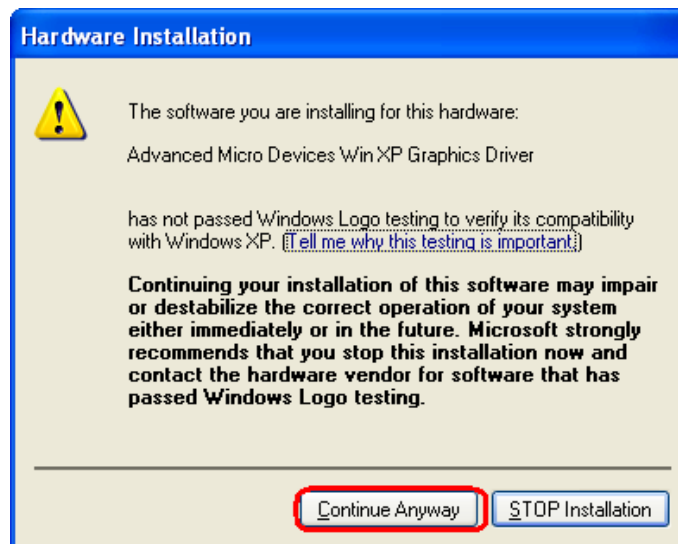

Figure 7-12: Wizard Warning Screen
Step 11: The warning screen in Figure 7-12 appears.